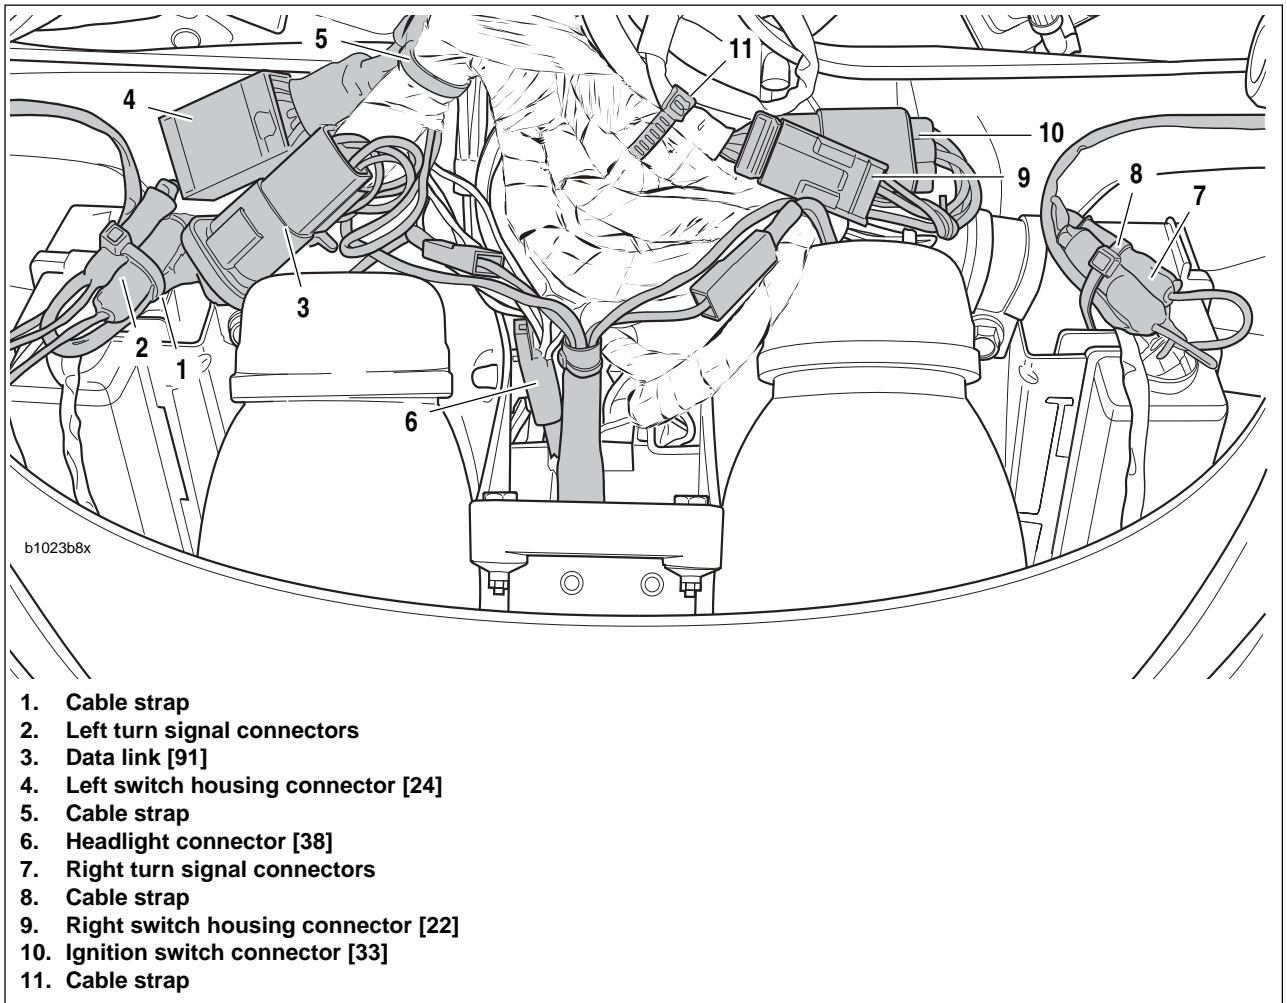

Figure 7-79. Fairing Wiring (viewed from underneath fairing)
19. See Figure 7-79. Verify proper fairing wire routing and cable strap locations.